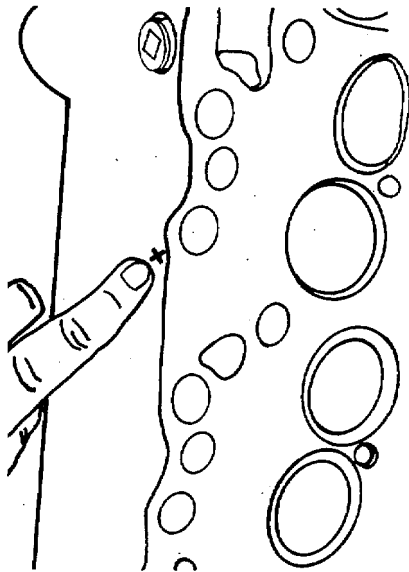

FIGURE 4-2. Marking Seats.
4-8. Repair Cylinder Head Group. (FIGURES 4-2 through 4-27)
- a. Mark valve seats that have been previously re-ground (FIGURE 4-2).
b. Mark the valves to identify their position. (FIGURE 4-2).